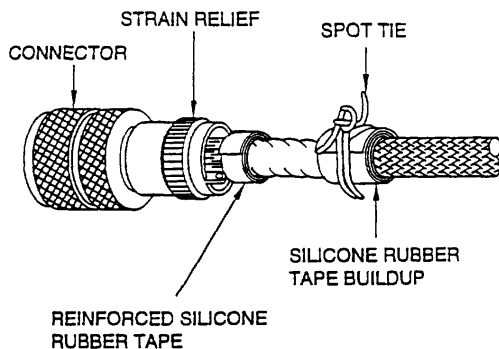

Figure 35. Typical Accessory Protection
- c. Cut and remove any spot tie or straps (Figure 35).